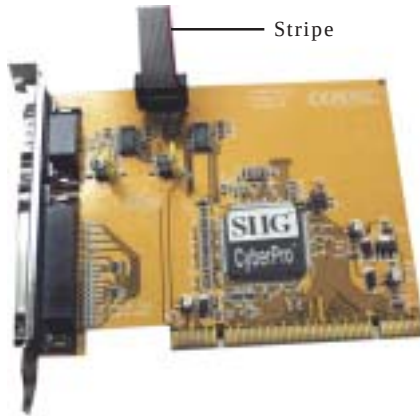

Figure 2. Connecting the ribbon cable
6. If you need the second serial port, connect the 9-pin ribbon cable connector now. See **Figure 2** on page **3** for more details. Skip this step if you only need one serial port.